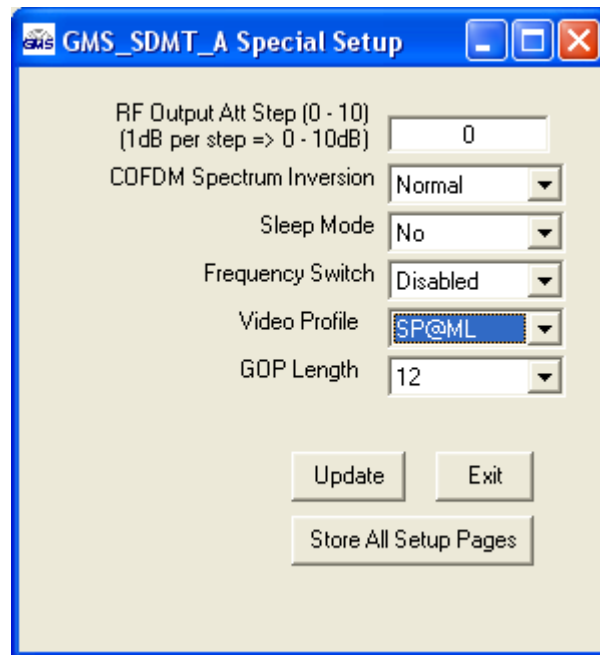

Figure 6 – Others
- **Others** (see figure 6)- This menu displays the following: